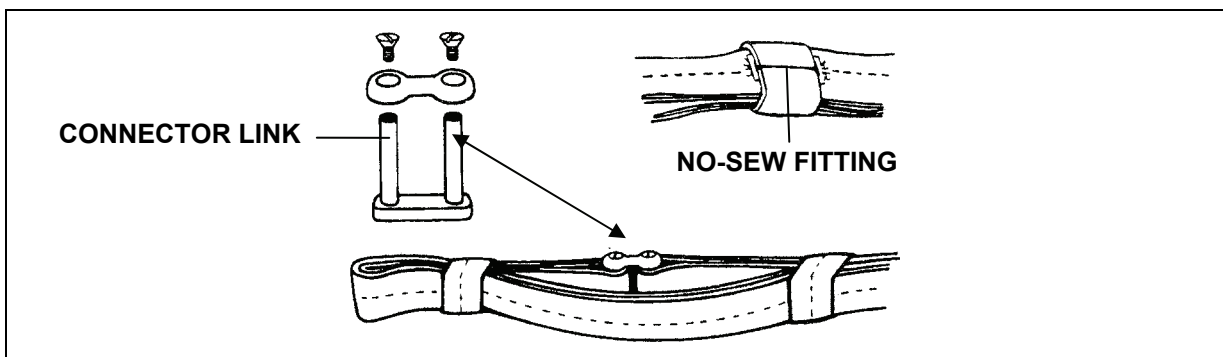

Figure 6-24. Connector Link
- Nylon Sling Leg.** The maximum capacity of each sling leg is 5,560 pounds. Each sling leg is made from a 15 foot long nylon web loop that is connected to itself by a connector link (Figure 6-24). The connector link is the same type link that is used on the web ring. The separate nylon plies are held together by five web keepers. Three of the keepers are sewn to the nylon loops and the other two are called floating web keepers. The floating web keepers are
located at either end of the nylon leg where they can slide back and forth to act as a cinch. All web keepers are held together by a no-sew fitting as shown in Figure 6-24.